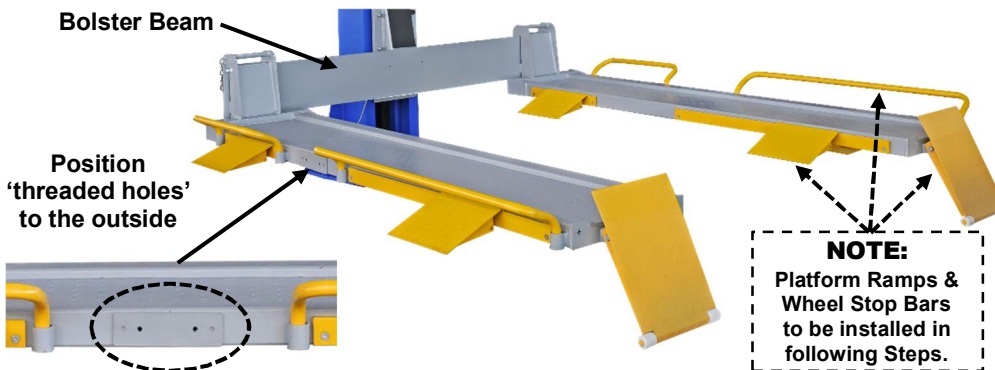

Fig. 11
- 1) Select either the **right side or left side platform** to mount onto bolster beam, The platform threaded holes should be mounted to the outside. **Fig. 11.**